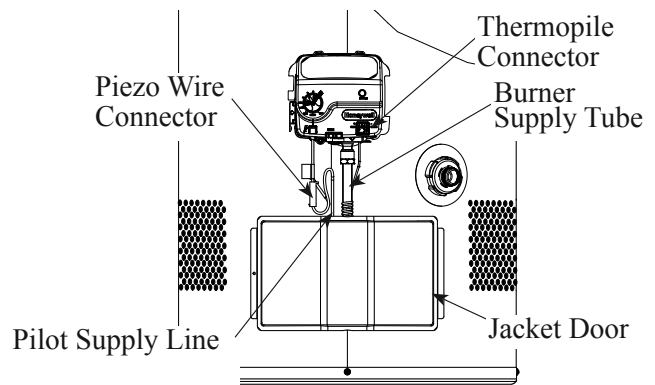

Figure 1
2. **REMOVE JACKET DOOR:** See Figure 1 or 2.
3. **DISCONNECTION OF THERMOPILE, PILOT SUPPLY LINE, BURNER SUPPLY TUBE AND PIEZO WIRING FROM THE COMBINATION GAS CONTROL:** Locate the thermopile connector on the combination gas control. Carefully pull off the connector. Using a 7/16" open-end wrench, disconnect the pilot supply line from the combination gas control. Using a 3/4" open-end wrench, disconnect the burner supply tube from the combination gas control. Locate the piezo wire connector and disconnect it by pulling it apart. See Figures 1 or 2 for the type of control your water heater is equipped with..
Install the inverted flared end of the burner supply tube into the combination gas control. Hand thread the hex nut fitting on the burner supply tube into the control. Ensure that the fitting is properly aligned with the control, otherwise cross threading of the connection will occur. Tighten the fitting using a 3/4" open-end wrench. See Figures 1 or 2 for the type of control your water heater is equipped with.
Install the end of the pilot supply line into the combination gas control. Hand thread the hex nut fitting on the pilot supply line into the control. Ensure that the fitting is properly aligned with the control, otherwise cross threading of the connection will occur. Tighten the fitting using a 7/16" open-end wrench. See Figures 1 or 2 for the type of control your water heater is equipped with.
needle nose pliers push the connector onto the Honeywell Combination Gas Control and ensure that the connector is fully engaged. Locate the piezo wire connector and connect it to the piezo lead coming from the gas control. See Figure 1.